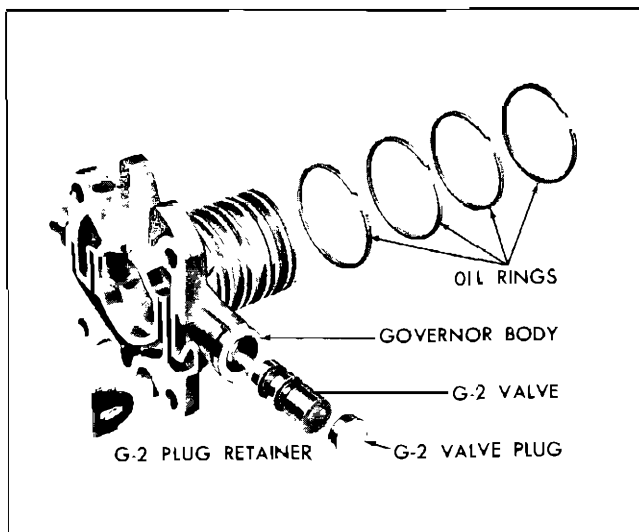

Fig. 92 Governor—Exploded
2. Install G-2 valve (small land first) into governor (Fig. 92).